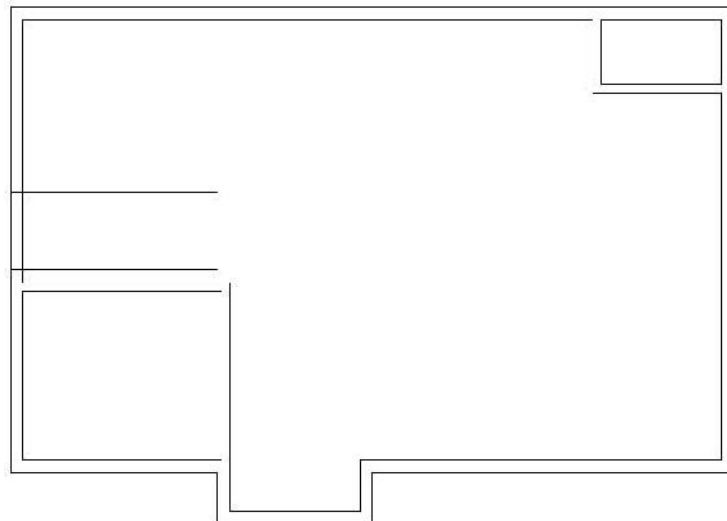

FIGURE 4.30: The offset line for the 3'-0" (915 mm) opening
4. End and restart the OFFSET command by pressing the spacebar or ↵ twice; then type **3'**↵ (**915**↵) to set a new offset distance, and offset the new line upward (see Figure 4.30).